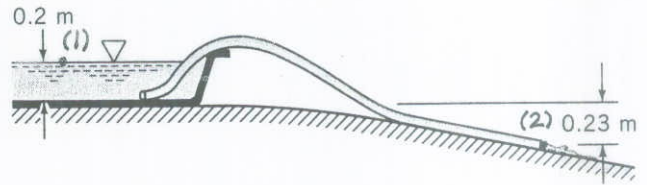

FIGURE P3.59
3.59 A smooth plastic, 10-m-long garden hose with an inside diameter of 20 mm is used to drain a wading pool as is shown in Fig. P3.59. If viscous effects are neglected, what is the flowrate from the pool?